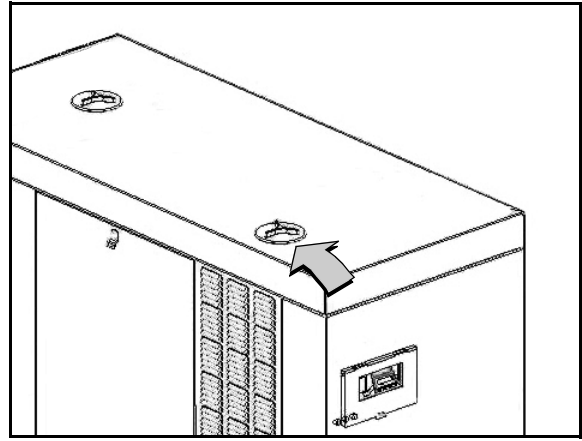

Figure 7-2. Access Oil Supply Tank
1. Rotate plastic cover counter-clockwise and remove from top of enclosure. See Figure 7-2
2. Remove fill cap at top of oil supply tank (Figure 7-2).